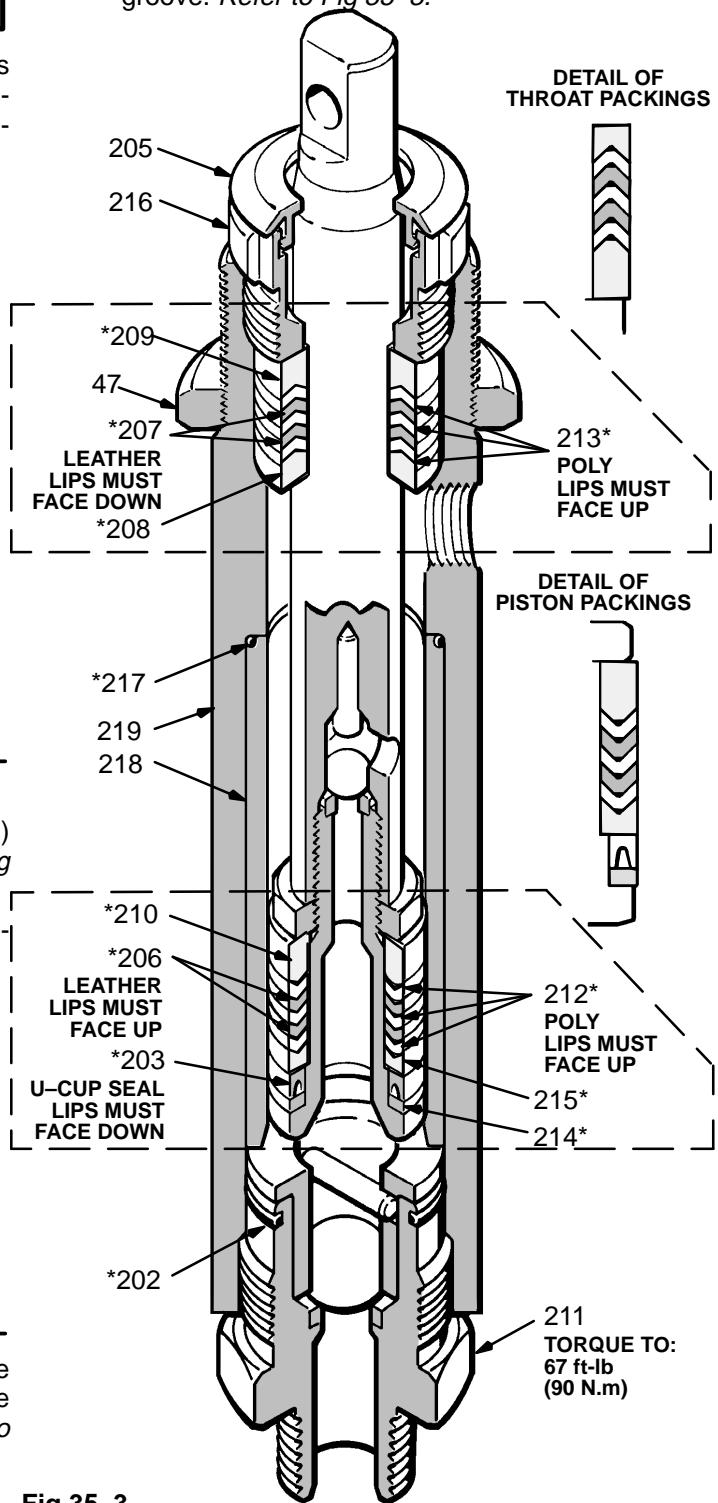
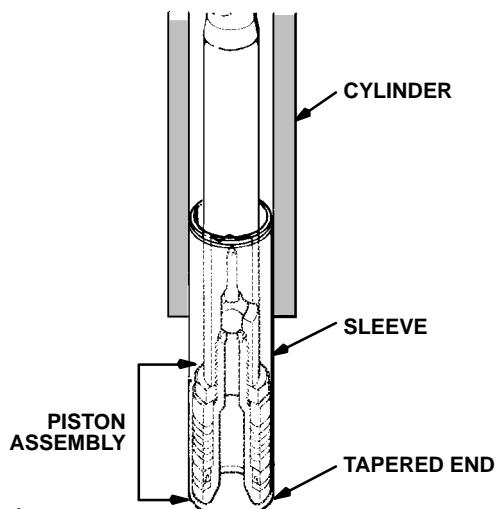

Fig 35-3
Fig 36-1
3. Remove the packing nut (216) and plug (205). Refer to Fig 35-3.
4. Use a plastic mallet to tap the piston rod (224) down, then pull the rod out through the bottom of the cylinder.
5. Remove the throat packings (207, 213) and glands (208, 209). Refer to Fig 35-3.
8. One at a time stack the male gland (208*), alternate the packings (213*, 207*), and then install the female gland (9), into the top of the cylinder (219). Refer to Fig 35-3.
9. Install the packing nut (216) and plug (205), but leave loose for now. Refer to Fig 35-3.
NOTE: The tapered end of the sleeve is the bottom of it. Refer to Fig 36-1.
11. Place a new o-ring (217*) firmly in the cylinder groove. Refer to Fig 35-3.
12. Slide the sleeve/piston rod assembly **INTO THE BOTTOM OF THE CYLINDER**. This is to prevent packing damage during reassembly. Refer to Fig 36-1.
13. Screw down the cylinder locknut (38) until it is finger tight at the bottom of the external cylinder threads.
14. Place flats of the intake valve (223) in a vise. Install a new o-ring (202*). Screw the pump cylinder into the valve. Torque to 67 ft-lb (90 N.m). Refer to Fig 35-3.